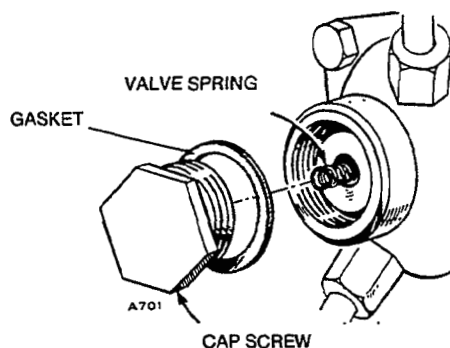

FIGURE 50. EARLY MODEL DELIVERY VALVE HOLDER
9. On early model (Figure 50) injection pumps, remove capscrew and install valve spring and capscrew with gasket. Torque capscrew to 75 to 89 ft.-lb. (102-120 Nm).